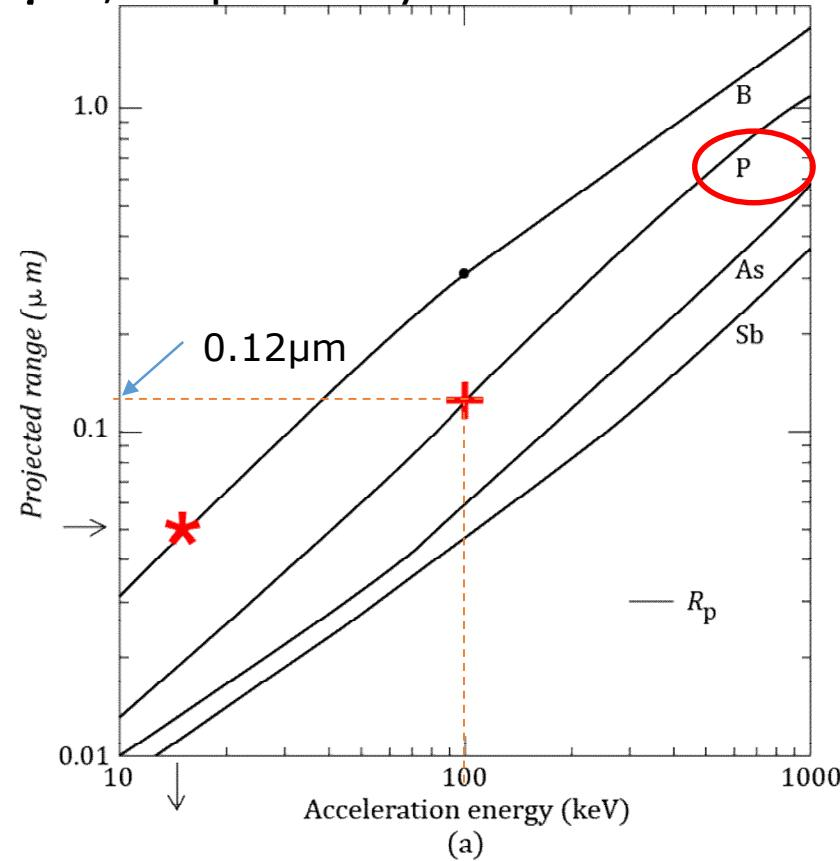

Figure 6.14
- a) Using figures 6.14 and 6.15, we find that the projected range and straggle are **0.12 μm** and **0.045 μm** , respectively.